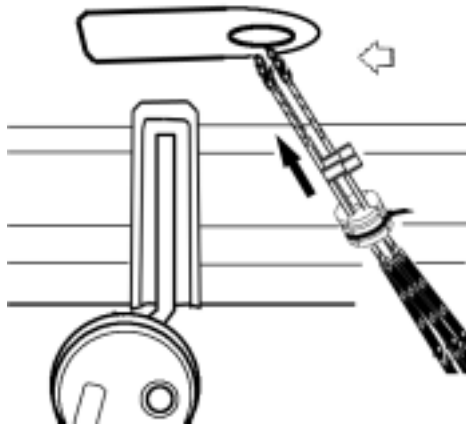

Figure 14.
11.) Insert the four sensor cables through the drain plughole and press the harness grommet up into position (Figure 14.).